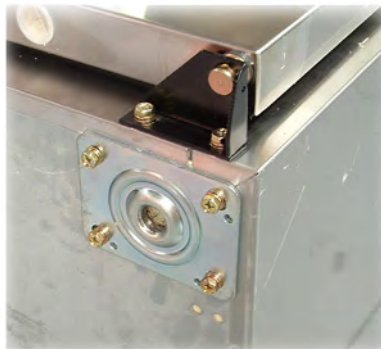

Figure 1: Castor Mounting Plate
**Castor Mounting Plates** If the chiller is intended to be mounted on a plinth, the castor mounting plates attached to the bottom of the cabinet can be removed to provide a flat bottom. Each castor mounting plate is held in place by four pozi-drive hexagon head screws (see Figure 1 above).